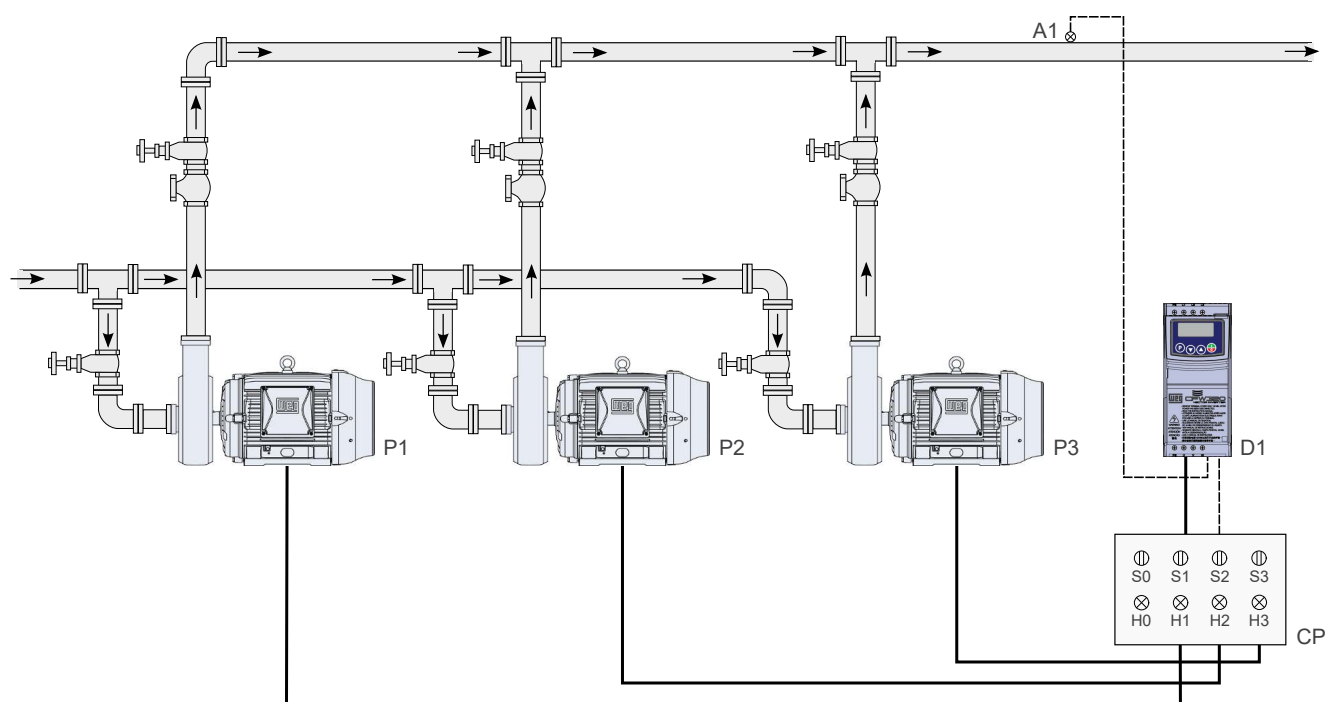
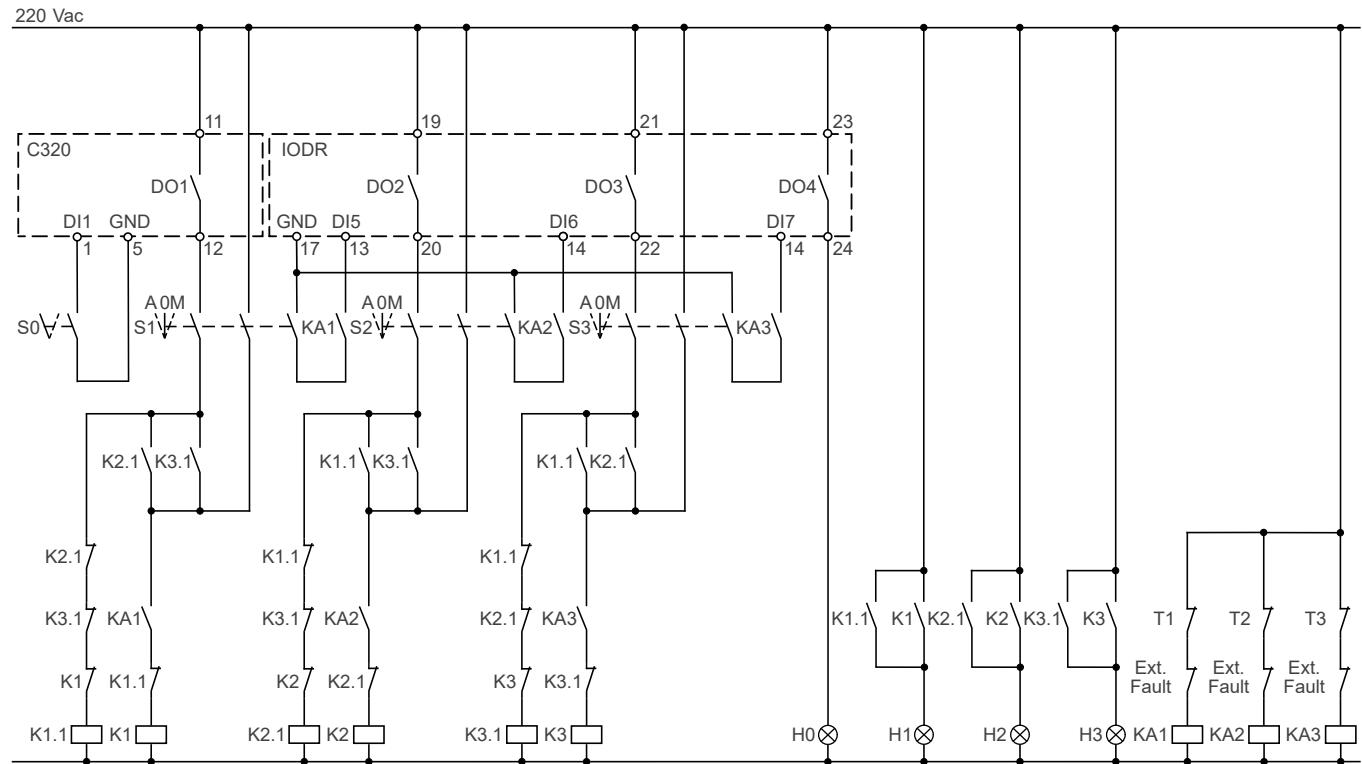

Figure 4.15: Pump Genius Multipump application with floating control type 1 and control setpoint via HMI
Figure 4.18: Command connections of the Pump Genius Multipump application with floating control type 1 and three pumps in parallel
The system is composed of the association of two to four pumps in parallel, and the CFW320 frequency inverter can be connected (via inverter output contactor commanded by a digital output) and control the speed of any of the pumps, but always the first started. The other pumps of the system are commanded by the digital outputs of the CFW320 frequency inverter that drive the contactors directly connected to the main power and operate at the rated speed. That is, with the control enabled and all the pumps turned off, the first pump to be started is connected to the inverter via the digital output command and the other pumps will be connected directly to the main power via the command of other outputs subsequently activated. At another moment, according to the setting, another pump can be driven by CFW320 inverter; by doing that, all pumps in the system are used in a uniform way. The interlock that prevents two or more pumps to be connected to the inverter is electrically done as Figure 4.18 at page 4-20.
The Figure 4.15 at page 4-17 presents a typical system with three pumps and control setpoint via HMI, basically composed of:
The signals H0, H1, H2 and H3 are not necessary for the operation of the Pump Genius Multipump with floating control type 1, because they only serve to indicate the operating condition of the pumps on the command panel (CP). In Figure 4.15 at page 4-17, the signals H1, H2 and H3 come from auxiliary contacts of contactors K1, K1.1, K2, K2.1, K3 and K3.1 which start the pumps 1, 2 and 3 as presented in Figure 4.18 at page 4-20.
The Figure 4.18 at page 4-20 presents the command connection diagram for three pumps in parallel and floating control type 1.